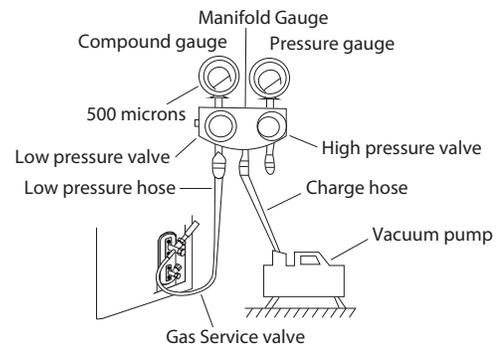
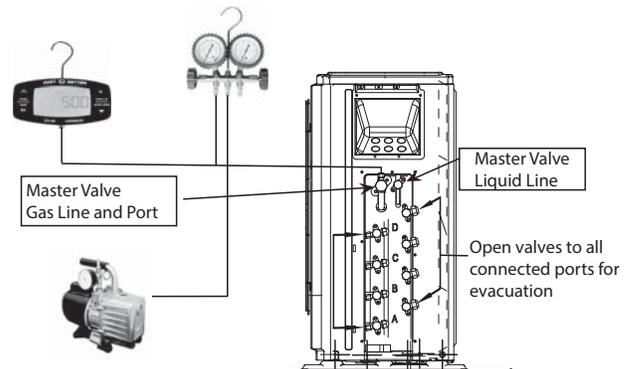

Fig. 23 – Manifold Gauge
Fig. 24 – Manifold Sizes 24–48
For sizes 24–48, connect the manifold gauge (low side hose) to the Master service valve (5/16 port, use the adapter to fit a 1/4in. hose) to evacuate all circuits at the same time (see Fig. 24).
4. Connect the charge hose to the vacuum pump (see Fig. 23).
5. Open (fully) the low pressure valve of the manifold gauge (see Fig. 23 for 18. Fig.24 for sizes 24–48).